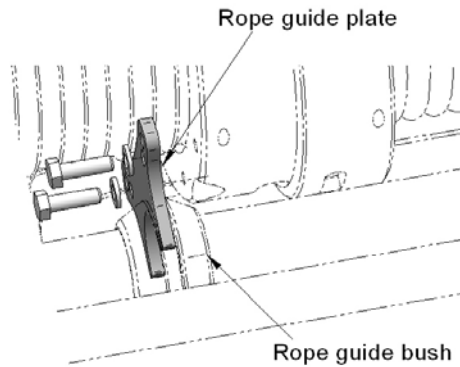

Figure 62 – Fitting Rope Guide Plate – Standard Environments
- FOR STANDARD ENVIRONMENT ROPE GUIDES :- Fit the rope guide plate into the slot on the rope guide bush and attach the guide plate to the side of the rope guide. Tighten the screws to 8Nm (see Figure 62).